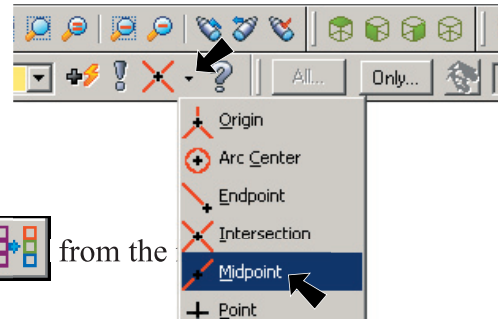

Fig. 31
Step 3. Click the down arrow in the Auto Cursor ribbon bar and click Midpoint , **Fig. 31**.